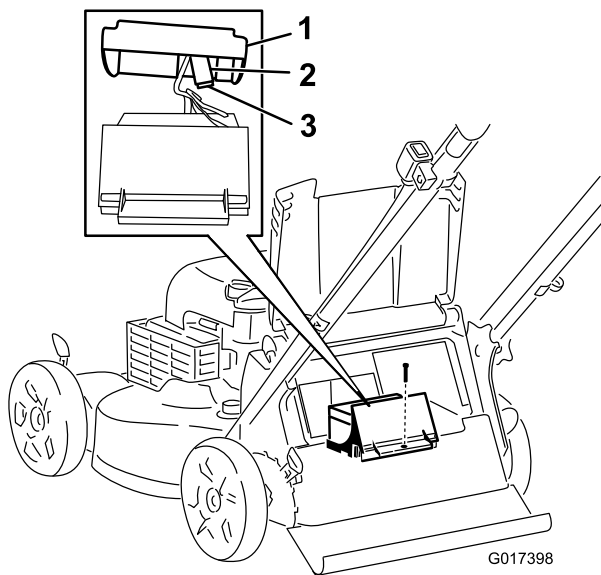

Figure 24
3. Remove the screw that secures the battery compartment, pull out the battery, and locate the fuse (Figure 24).
4. Replace the fuse in the fuse holder (Figure 24).